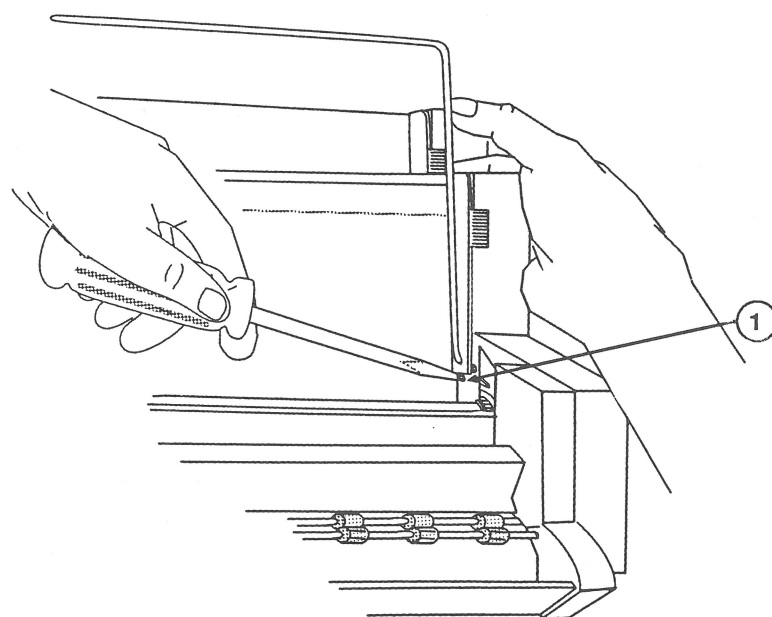

FIGURE 10
- a) Raise the tension release lever and locate the hole (Figure 10, #1) just below the wire paper guide on the Cut Sheet Feeder. Push the point of a screwdriver into that hole.